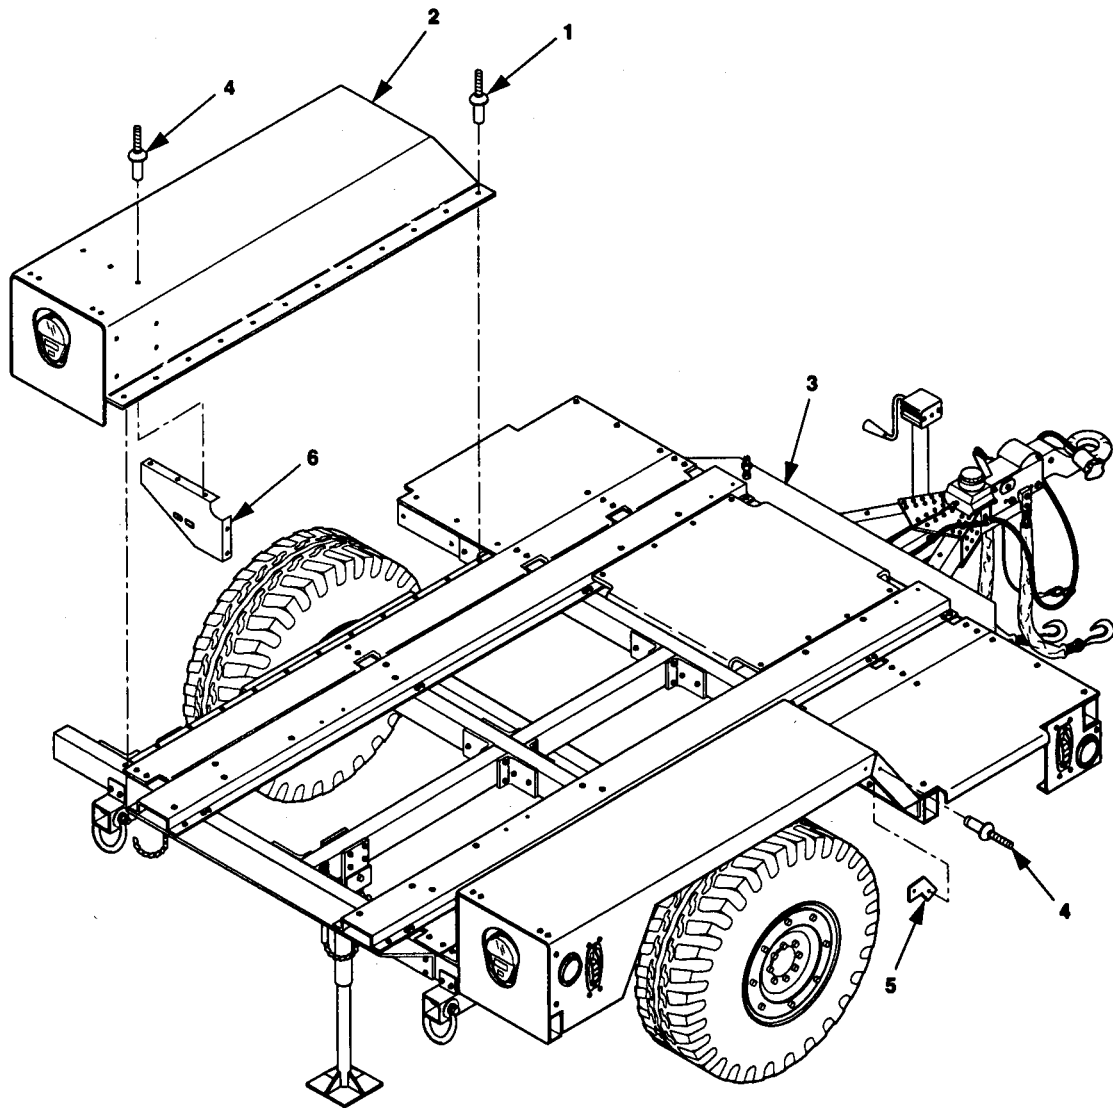

Figure 5-20. PU-801A Fender Replacement.
(1) Data plate (paragraph 4-22).
(2) Fire extinguisher and bracket (paragraph 4-20).
(3) Side marker light and reflector (TM 9-2330-392-14&P).
c. Remove rivets (1, figure 5-20) and fender (2) from trailer chassis (3).
- a. Place fender (2, figure 5-20) on trailer chassis (3) and secure with rivets (1).
- (1) Data plate (paragraph 4-22).
- (2) Fire extinguisher and bracket (paragraph 4-20)
- (3) Side marker light (TM 9-2330-392-14&P).